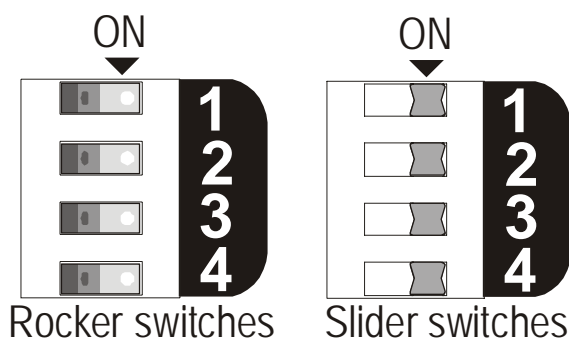

Fig. 3.9) Dip switches – supplied either with rocker or slider switches
- 15) Set the dip switches on the top of the camera unit, using a small screwdriver. Refer to Fig. 3.9).